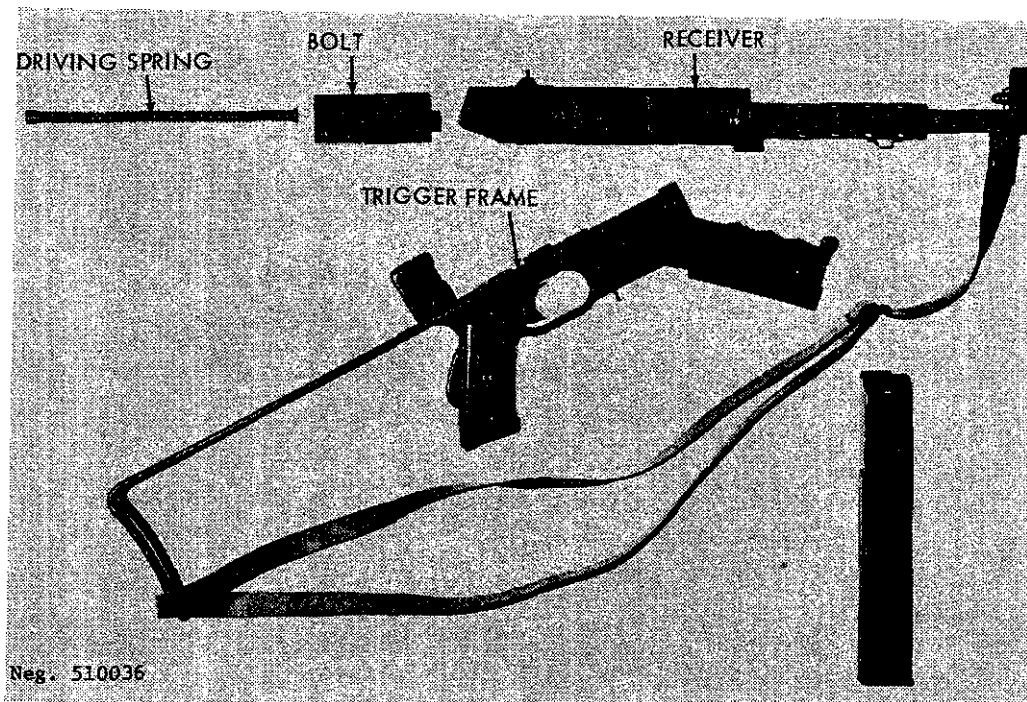

Figure 37. M.A.T. 49 disassembled.
a. To disassemble the weapon (fig 37), clear the submachinegun (para 59f) and release the magazine housing from the barrel jacket (para 59b), but do not latch it to the receiver. Press in the knurled take-down button under the rear end of the barrel jacket. Swing the barrel and receiver assembly upward, off the trigger frame. The bolt and driving spring can be removed through the sear of the receiver. No further disassembly is required or desirable.